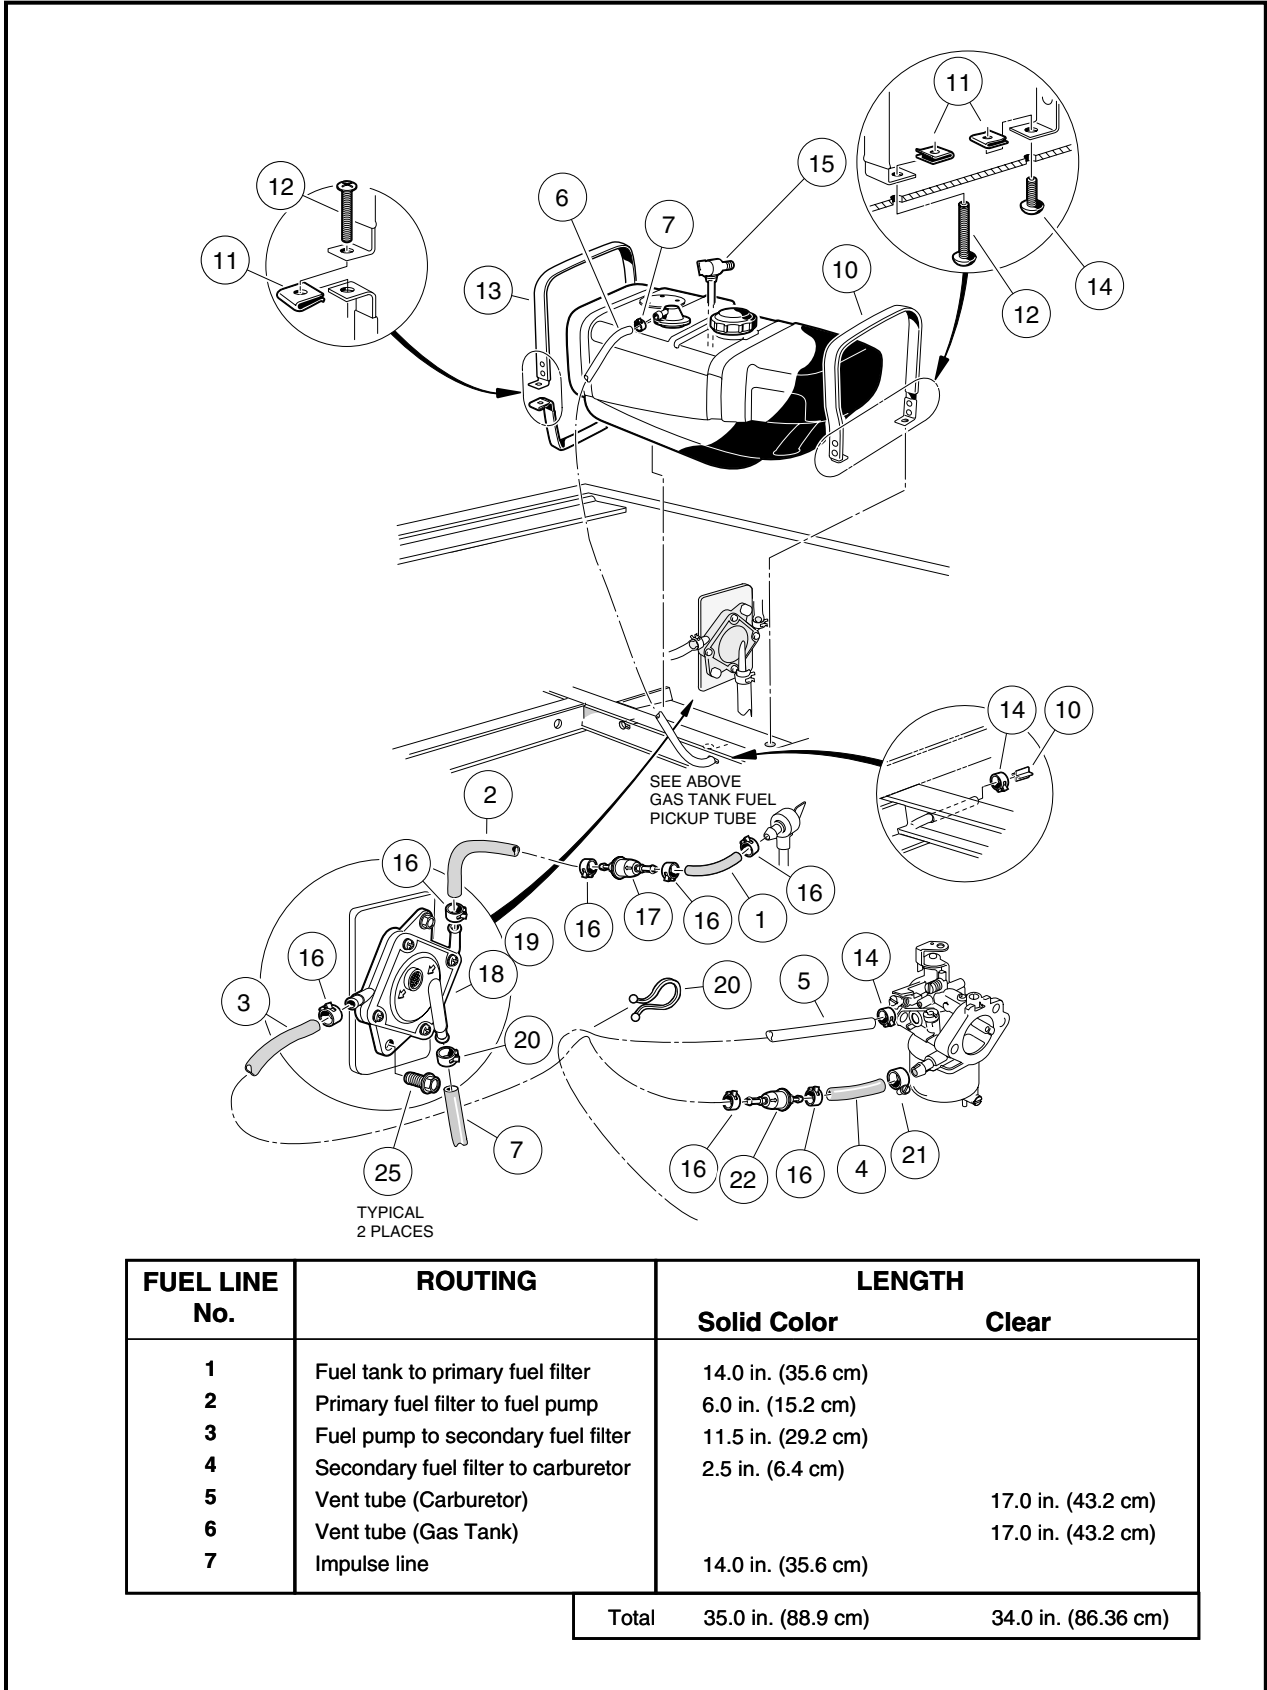
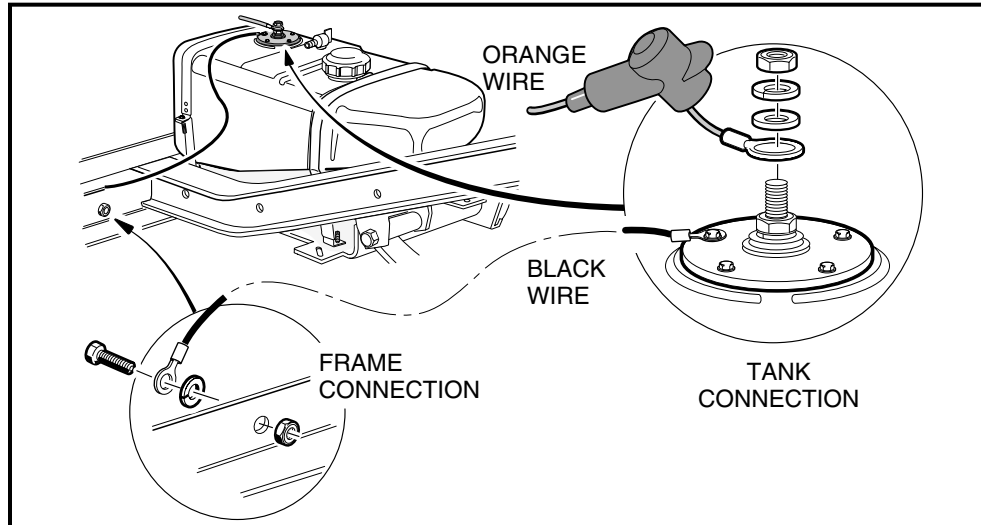

Figure 14-18 Fuel and Vent Lines
Figure 14-20 Fuel Level Sending Unit
6. To prevent gasoline drainage, turn the fuel shut-off valve (15) (**Figure 14-18, Page 14-27**) on the gas tank to the closed (OFF) position (**Figure 14-22, Page 14-32**).
7. Remove the primary fuel filter (17) (**Figure 14-18, Page 14-27**).
- 7.1. Remove the clamps (16) and fuel lines (1) and (2) from the filter and plug the fuel lines (**Figure 14-18, Page 14-27**).
8. Remove the secondary filter (22) (**Figure 14-18, Page 14-27**).
- 8.1. Remove the clamps (16) and fuel lines (3 and 4) from the filter and plug the fuel lines (3 and 4) (**Figure 14-18, Page 14-27**).
1. Install the primary fuel filter (17) in the fuel line. Use new clamps (16) (**Figure 14-18, Page 14-27**).
2. Install the secondary fuel filter (22) in the fuel line. Use new clamps (16).
6. Remove hardware (25) attaching the fuel pump (18) and lift the fuel pump out of the engine compartment (**Figure 14-18, Page 14-27**).
7. Remove the clamp (20) and impulse line (7) from fuel pump (**Figure 14-18, Page 14-27**).
8. Disconnect the fuel lines (2 and 3) from the pump and plug them to prevent gasoline leakage (**Figure 14-18, Page 14-27**). **See following WARNING.**
1. Connect the fuel line (2) that comes from the fuel filter (17) to the fuel pump (18). Install a new clamp (16) (**Figure 14-18, Page 14-27**). **See same figure for proper routing of fuel lines.**
NOTE: Be sure to connect the fuel line (2), that comes from the primary fuel filter (17), to the inlet nipple on the pump. Direction of fuel flow is indicated by the arrows on the fuel pump (**Figure 14-18, Page 14-27**).
2. Connect the fuel line (3) to the fuel pump (18) that goes to the secondary fuel filter (22) (**Figure 14-18, Page 14-27**). Install a new clamp (16).
3. Connect the impulse line (7) to the bottom nipple on the fuel pump (18) (**Figure 14-18, Page 14-27**). Use a new clamp (20).
4. Install the fuel pump onto the mounting bracket with two thread-rolling screws (25) and tighten to 40 in-lb (4.5 N·m) (**Figure 14-18, Page 14-27**).
12. Disconnect the black wire and orange wire from the fuel level sending unit on the tank (**Figure 14-20, Page 14-30**). Do NOT remove the lower nut on the center stud of the sending unit. **See following WARNING.**
13. Remove the vent tube (6) and fuel line (1) from the fuel tank (**Figure 14-18, Page 14-27**).
14. Loosen the straps (13 and 10) by removing the screws (12 and 14) from the speed nuts (11) (**Figure 14-18, Page 14-27**).
1. With the retaining straps correctly positioned, install the fuel tank in the vehicle (**Figure 14-18, Page 14-27**).
2. Secure the tank with the retaining straps (13 and 10) (**Figure 14-18, Page 14-27**).
- 2.2. Install the screws (12 and 14) into the speed nuts (11). Tighten screws to 25 in-lb (2.8 N·m) (**Figure 14-18, Page 14-27**).
4. Connect the vent tube (6) to the gas tank vent (**Figure 14-18, Page 14-27**).
5. Connect fuel line (1) to the fuel tank shut-off valve (15). Use a new clamp.
6. Connect the black wire from the fuel gauge to one of the fuel level sending unit screws. Connect the orange wire to the center stud (**Figure 14-20, Page 14-30**) and install the flat washer, lock washer and nut. Tighten to 18 in-lb (2.0 N·m).
7. Slide the rubber boot over the stud (**Figure 14-20, Page 14-30**).
Fuel line no. 1 runs directly from the fuel tank to the primary fuel filter (17). The primary fuel filter (17) has an arrow indicating fuel flow direction (**Figure 14-18, Page 14-27**).
Fuel line no. 3 runs directly from the fuel outlet of the fuel pump to the secondary fuel filter (22) (**Figure 14-18, Page 14-27**). The secondary fuel filter has an arrow indicating fuel flow direction and is identical to the primary fuel filter.
Fuel line no. 4 runs from the outlet of the secondary fuel filter to the carburetor (**Figure 14-18, Page 14-27**).
Small spring steel band clamps are used on all hose connections except at the carburetor. A screw band clamp should be used at the carburetor (**Figure 14-18, Page 14-27**).